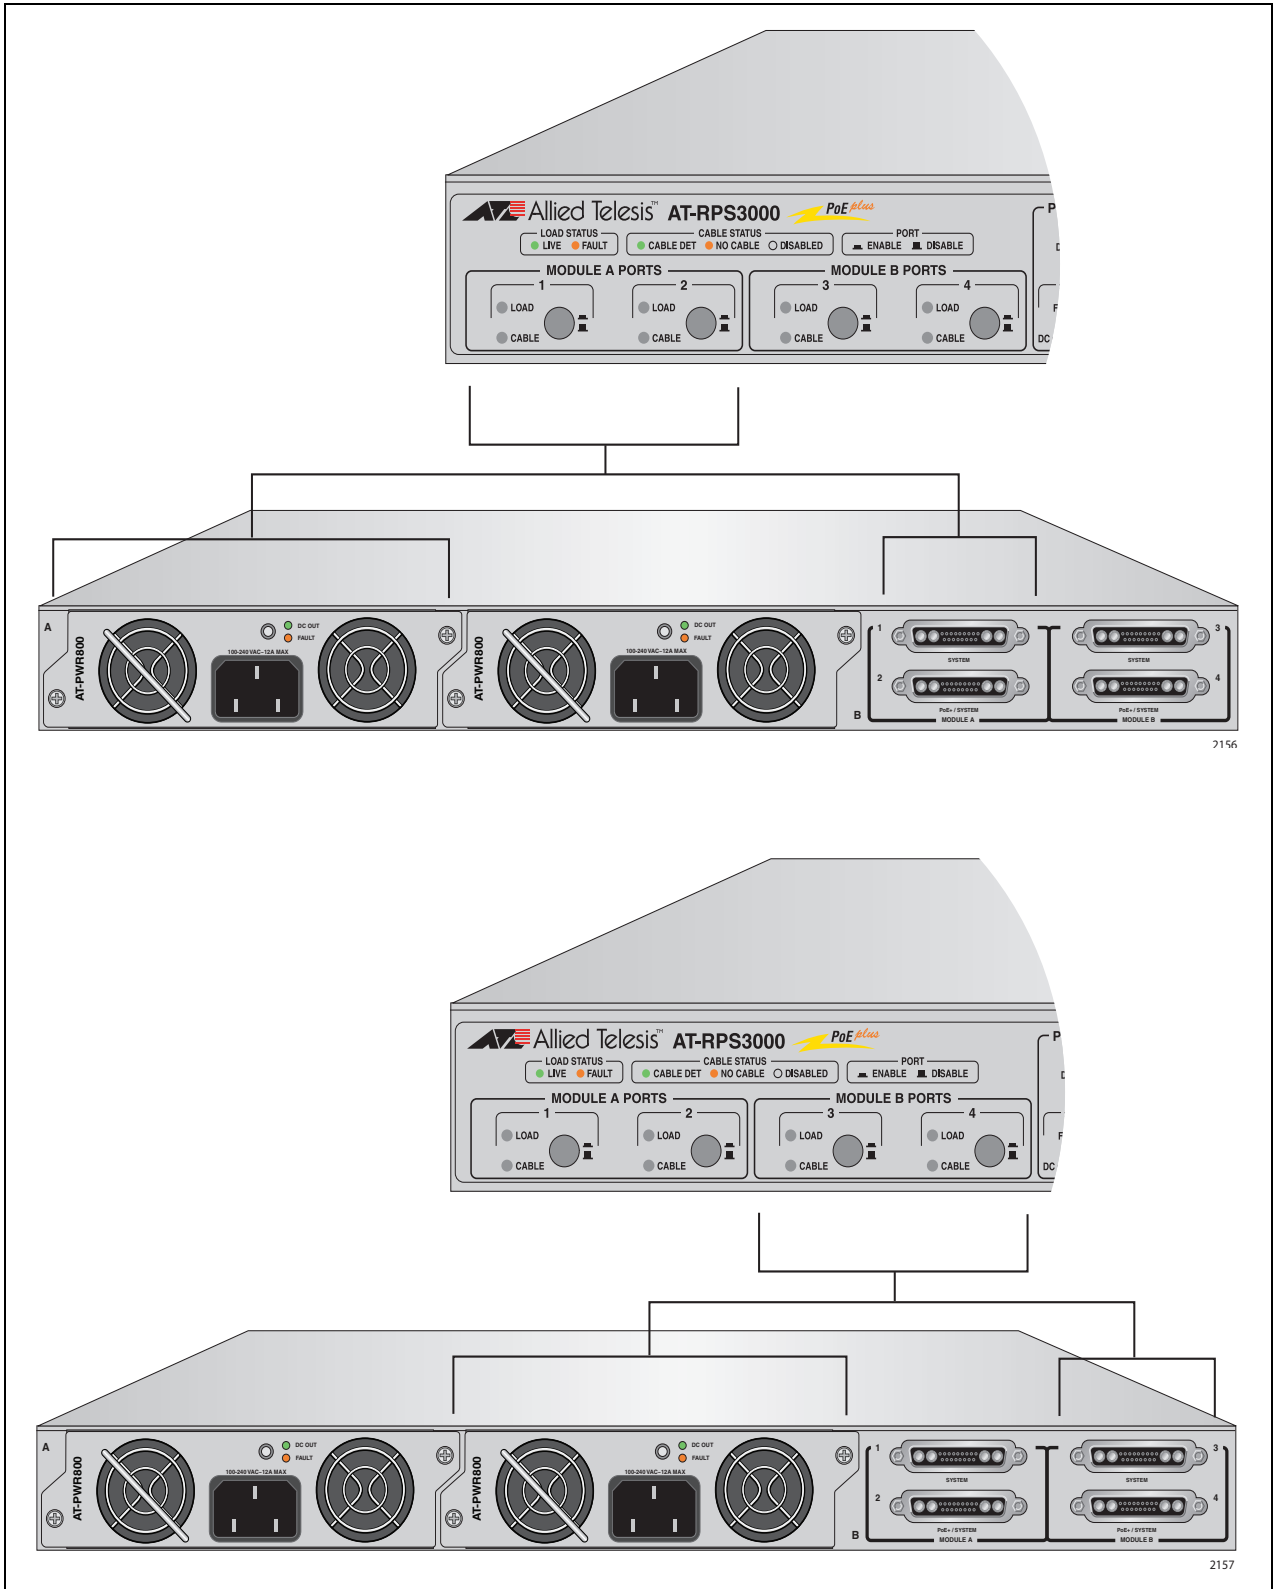

Figure 55. Checking the LOAD and CABLE LEDs in the LED Panel
7. In the MODULE A/B PORTS section of the LED panel shown in Figure 55 on page 73, examine the LOAD and CABLE LEDs of the two ports that receive power from the power supply module. The LOAD and CABLE LEDs of RPS ports that are connected to x610 Series switches should be green. If the LEDs are off, press the On/Off buttons to active the ports.